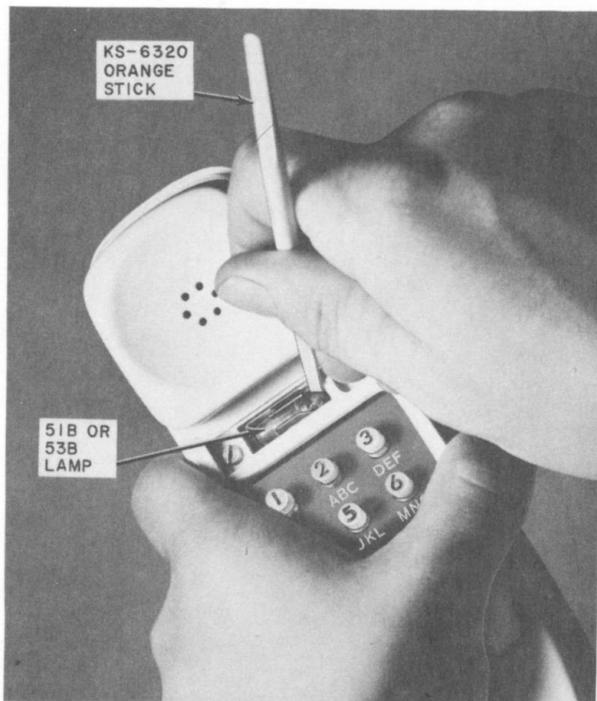

Fig. 16—Removing Dial Lamp from Hand Telephone Set
- 4.02 To replace a dial lamp in the 220A, 220AM, 2220B, or 2220BM hand telephone set, remove the cover (Fig. 1). A KS-6320 orange stick can be used to remove the lamp (Fig. 16). **Exercise caution to prevent the lamp from flying out of the socket in a dangerous manner.**